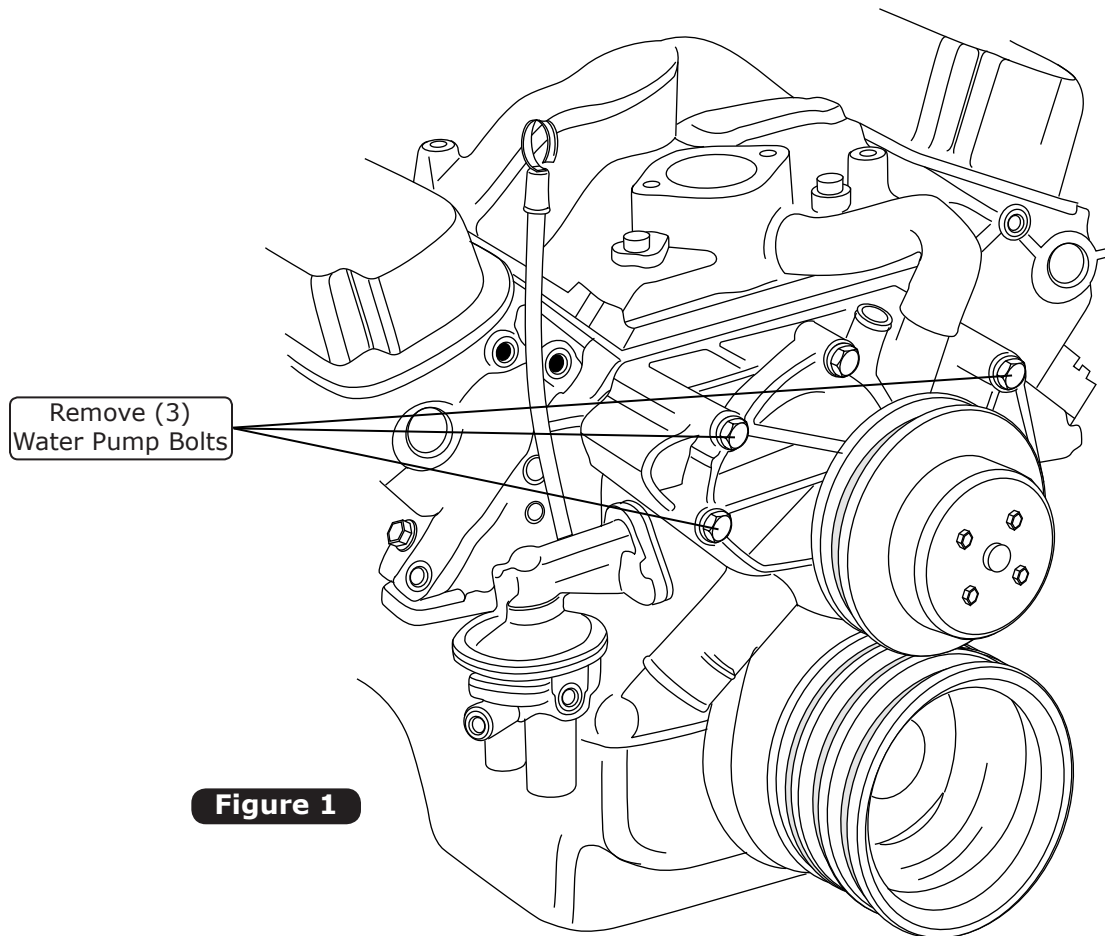

Figure 1
5. Remove (3) water pump bolts as shown in Figure 1, below.